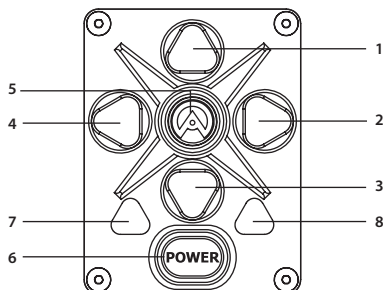

FIGURE 3-10. BUTTON CONTROL PANEL
The Zeus PRO button control panel is shown in Figures 3-10.
Table 3-2 contains the button functions and their brief descriptions. The ITEM NO. column of the table indicates the number used to identify buttons in Figure 3-10.
To display the MAIN MENU, push and hold down the MENU button (5) on the control panel (Figure 3-10).